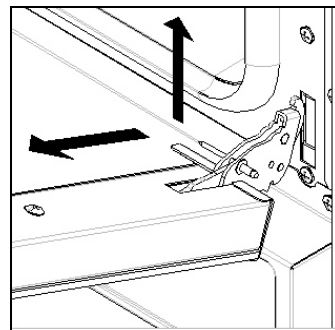

Fig. 4
- lift the door gently and withdraw it (Fig. 4);